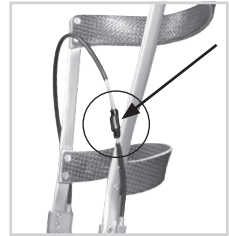

fig. 9
The separable pulling cable is delivered preassembled. If you want to adapt the pulling cable, place the coupler (fig. 9) in a position that is well suited for the patient.
- 1 Reduce the length of the long and/or short pulling cable, if applicable. The coupler should be positioned in such a way that it is easy to handle by the patient (fig. 9).